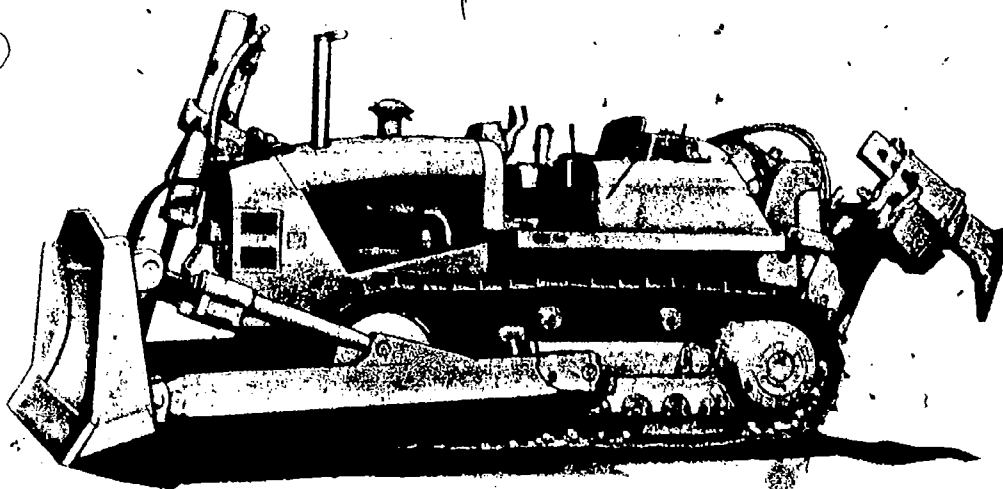

Fig 1-4. Terex model 82-30M crawler-tractor with bulldozer and rippe
- (1) Case MC 1150 Scooploader (fig 1-4). This is the latest model of the medium crawler-tractors being used by the Marine Corps. The Case Model MC 1150 full-tracked scooploader is powered by a 2-stroke, 4-cylinder diesel engine manufactured by Detroit Diesel. A single-stage, hydrokinetic-type torque converter is coupled directly to the engine and attached to the transmission by a universal joint drive shaft. All gears are in constant mesh and shifting between gears is accomplished by selective engagement of multiple-disk clutches. A hydraulically controlled 1 3/4-cu yd multipurpose bucket performs excavating and materials-handling jobs. The bucket may also be used as a dozer or scraper in addition to loading operations. The loader is equipped with hydraulic controls and connections for operating a towed scraper. The loader has a 60-in. fording capability.
- (2) Terex 82-30M (fig 1-4). The Terex 82-30M is powered by a 2-stroke-cycle, 6-cylinder, series 71, Detroit diesel engine. The power is delivered to the power train by an Allison Torqmatic transmission which is controlled by mechanical linkage and hydraulics. This tractor uses multiple-disk, oil-cooled, hydraulically controlled steering clutches and brakes; the brakes also have mechanical linkage for engaging. The operating weight of the bare tractor is approximately 43,000 lb. The tractor can be equipped with either of two rear attachments: a hydraulic ripper or a single drum winch (SDW). It is equipped with a bulldozer blade that can be tilted or removed.